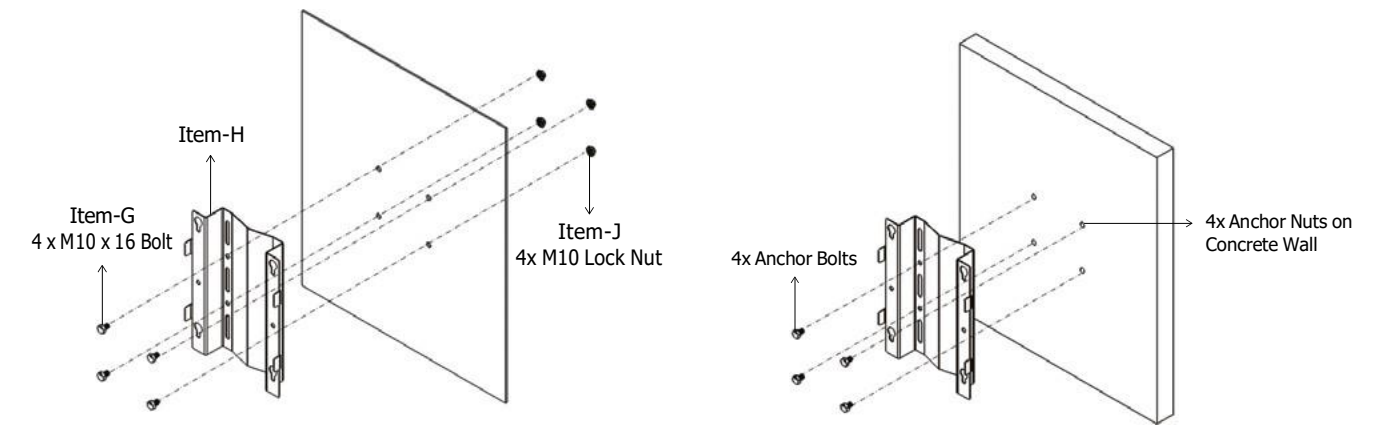

Figure 16: Installation of mounting bracket to sheet (left) and wall (right)
- Identify the location for installation. Place the mounting bracket against the surface with the flanges facing away from the pole as shown in the following Figure 16.
- Attach the mounting bracket (Item-H) using bolts and nuts or anchors. If the back of the mounting surface is accessible, install with 4 M10 bolts (Item-G) and locknuts (Item-J) as shown in the following Figure 16 (make sure that the maximum torque applied does not exceed 46Nm).